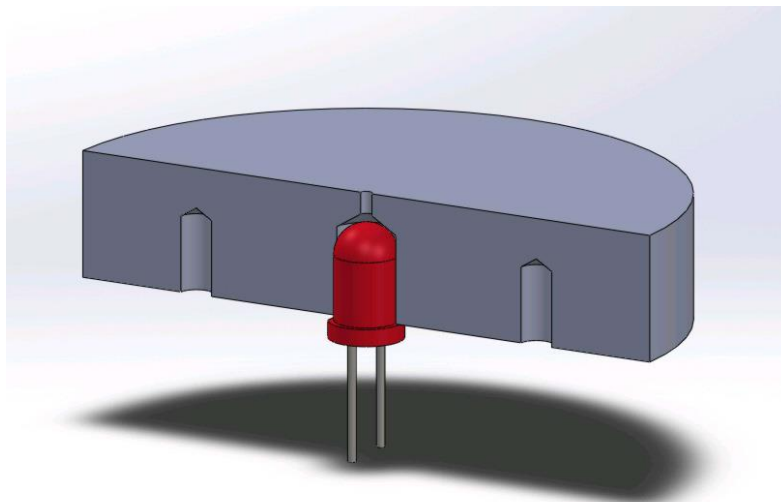

Figure 4: Detail view - drill holes for LED mounting
The LED target consists of an aluminium plate (BOM item 27) with drill holes to mount the IR LEDs. The drill hole is subdivided into two parts – the upper part has a small diameter of 1mm. This results in spots in the **pmd** intensity image, which are neither too small to be discernible nor too large to impede their centre detection. This is shown in Figure 4.